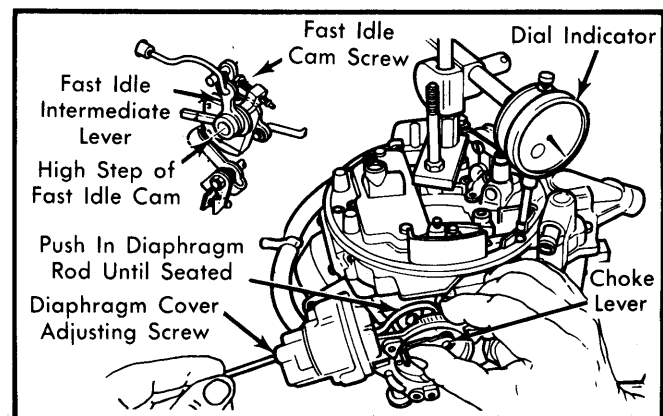

Fig. 10 Choke Diaphragm "CER 0°F (-18°C) Run" Adjustment
4) Do not remove dial indicator or reset it to zero. Depress choke control diaphragm by pushing in diaphragm rod until diaphragm bottoms out. See Fig. 10. Rotate thermostat lever clockwise until choke shaft lever pin touches fast idle intermediate lever. Dial indicator should read "CER 0°F (-18°C) Run" specification.